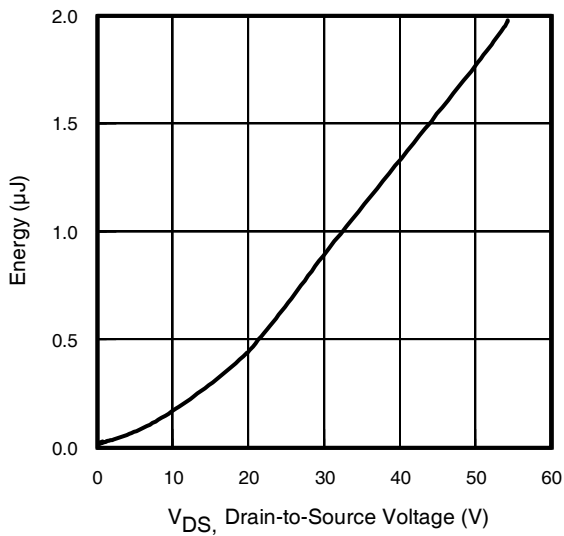

Fig 11. Typical C_{OSS} Stored Energy
| C _{oss eff. (ER)} | Effective Output Capacitance (Energy Related) | — | 1480 | — | | V _{GS} = 0V, V _{DS} = 0V to 48V ^⑦ , See Fig. 11 |